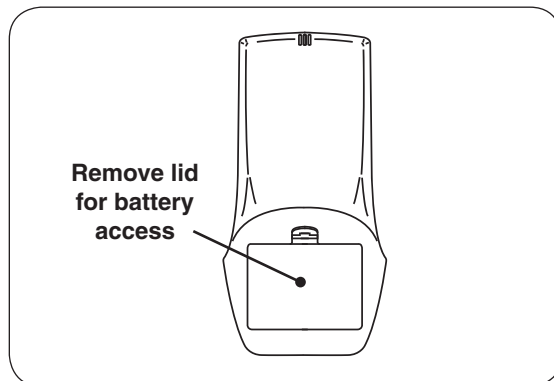

Fig. 55-1 Transmitter battery replacement
The remote transmitter requires 3 AAA batteries to operate. Locate the transmitter, remove the lid (found on rear), and properly insert new batteries as marked. Re-secure the lid. See Fig. 55-1.
1. Locate the receiver on the control box, which is located on the left side of the unit (see Fig. 55-1).